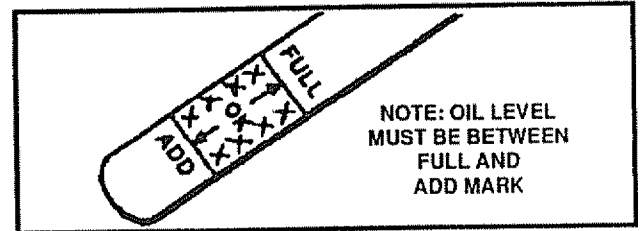

FIG. 19
Check the crankcase oil level (See Fig. 19) before starting the engine and after each five (5) hours of continuous use. Add S.A.E. 5W30 motor oil as needed. Tighten fill cap/dipstick securely each time you check the oil level. S.A.E. 0W30 motor oil may be used to make starting easier in areas where the temperature is 20° F or lower.